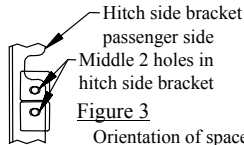

Figure 3
- Remove M10 fasteners to reattach exhaust hanger and load leveling compressor, and reinstall fasteners. Note: on AWD models, it will be necessary to pass exhaust hanger through 2-3/4" long slot in side bracket and use (2) ¼" spacer blocks, as shown in figure 2 and figure 3, to reattach exhaust hanger bracket.